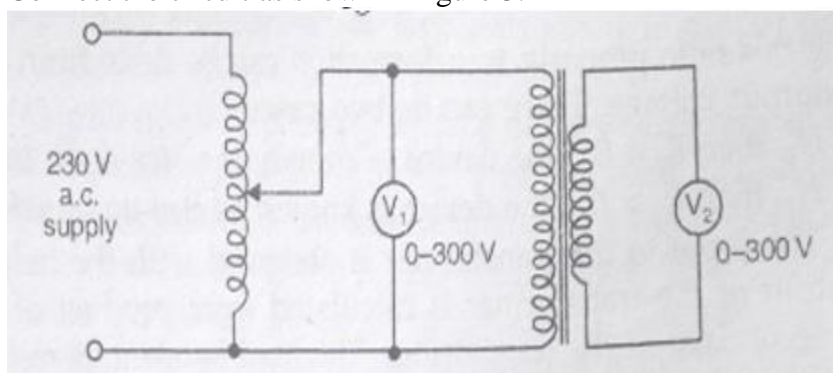

Figure 3: Circuit for Voltage Ratio Test
1. Connect the circuit as shown in figure 3.